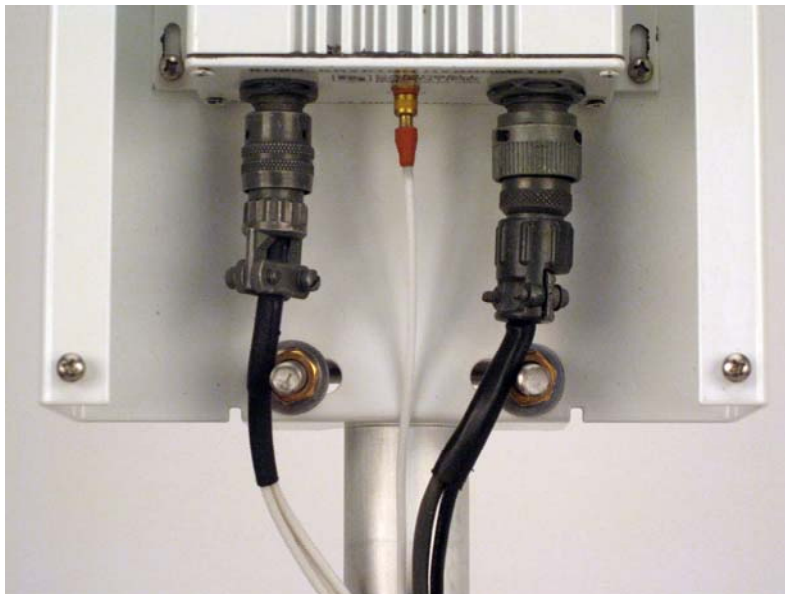

Figure 3. Attaching cables to the electronics box.
4. Connect the three cables to the bottom of the electronics box around the U-bolt on the rain shield (see Figure 3). If there is not enough room for the connectors around the U-bolt, make sure the electronics box is mounted at a highest possible position (see step 2).